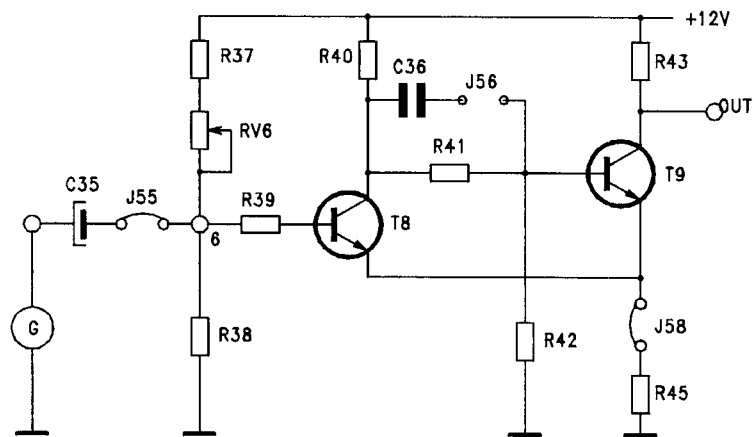

Fig. B40.4
- Remove jumper J59, insert J55, J58 to produce the circuit of fig.B40.4.